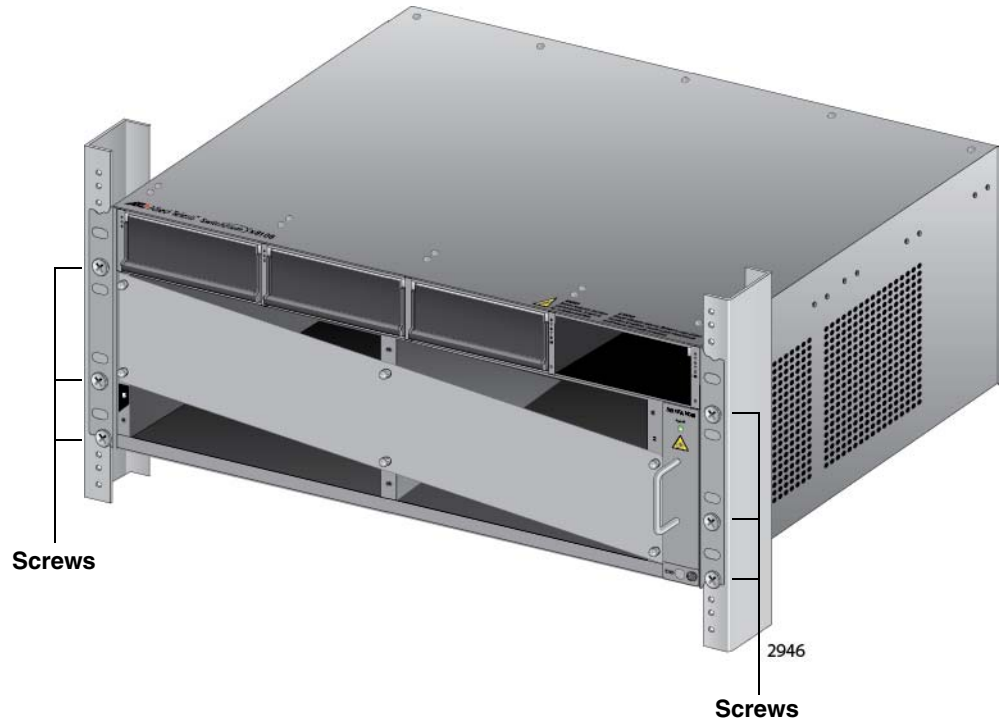

Figure 35. Tightening the Rack Mount Screws
5. Tighten all six screws shown in Figure 35 on page 95 to secure the chassis to the equipment rack, Allied Telesis recommends tightening the screws to 10 inch-lbs.